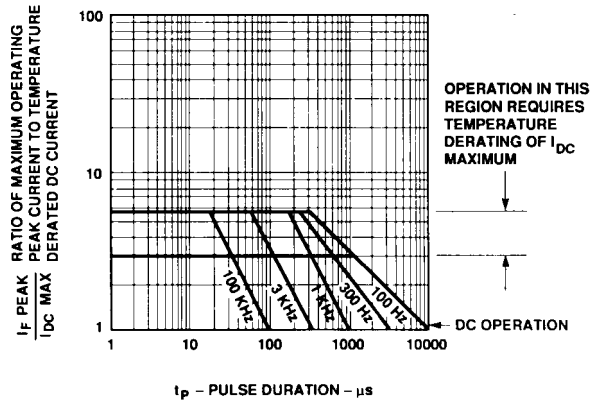

Figure 8. Maximum Tolerable Peak Current vs. Pulse Duration - Yellow.
5. See Figure 8 to establish pulsed conditions.